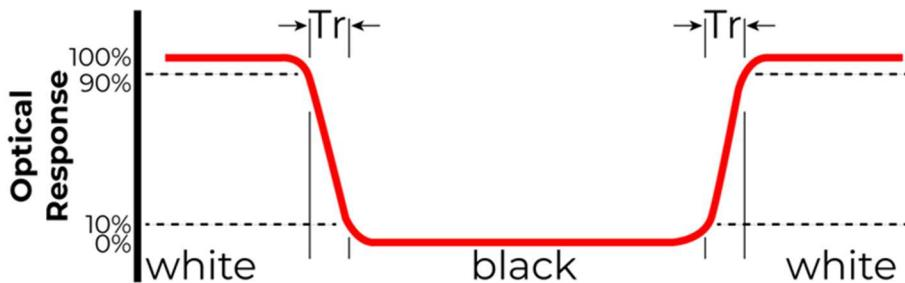
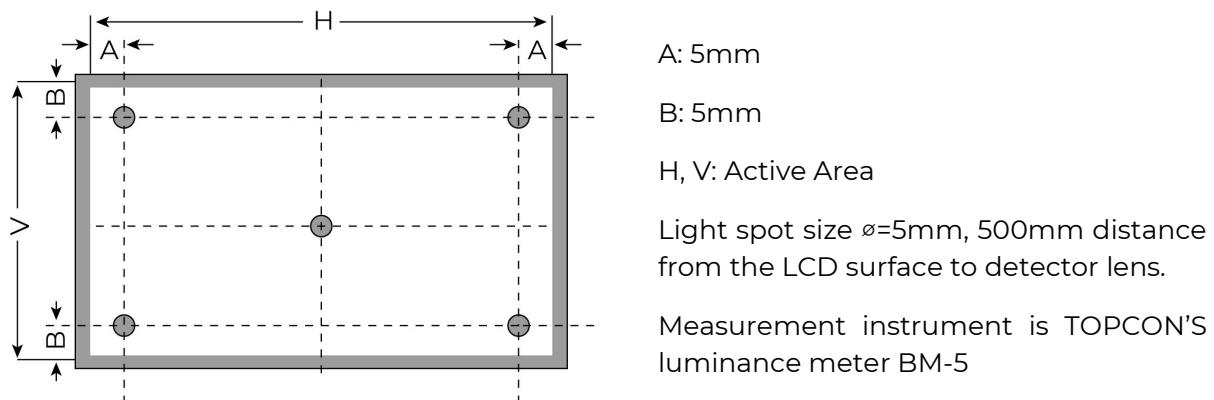

Figure 1. The definition of response time
Figure 2. Measuring method for Contrast ratio, surface luminance, Luminance uniformity, CIE (x, y) chromaticity
| Response Time           | Tr+Tf             | $\theta=0^\circ$$\phi=0^\circ$Ta=25 °C | -    | 30   | 34   | ms                | FIG 1.FIG 2. | 4    |
| CIE (x, y) Chromaticity | Rx                | $\theta=0^\circ$$\phi=0^\circ$Ta=25 °C | 0.59 | 0.64 | 0.69 | -                 | FIG 2.           | 5    |
**Note 1.** Contrast Ratio (CR) is defined mathematically as below, for more information see Figure 2.
**Note 2.** Surface luminance is the LCD surface from the surface with all pixels displaying white. For more information see Figure 2.
**Note 3.** The uniformity in surface luminance  $\delta$  WHITE is determined by measuring luminance at each test position 1 through 5, and then dividing the minimum luminance of 5 points luminance by maximum luminance of 5 points luminance. For more information see Figure 2.
**Note 4.** Response time is the time required for the display to transition from white to black (Rise Time, Tr) and from black to white (Decay Time, Tf). For additional information see Figure 1. The test equipment is BM-7A.